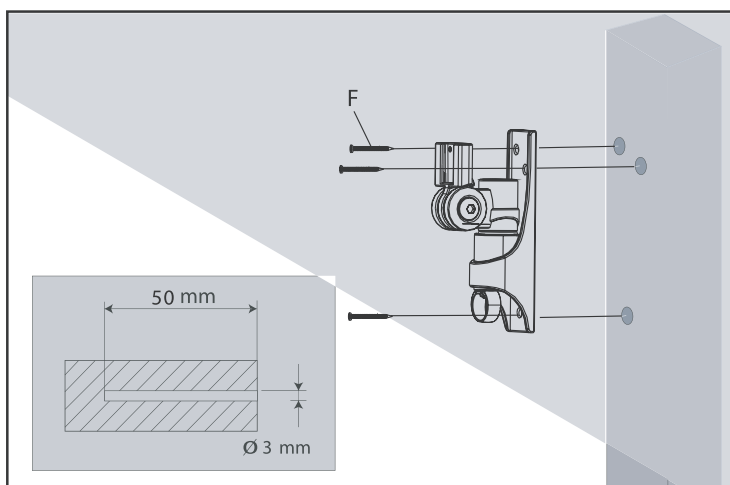

Fig 1
Use an electronic stud finder to detect the position of stud, then make a mark. Hold the wall mount in the installation position, using it as template. Mark mounting holes. Using a 3mm drill bit, drill three 50mm deep holes. Securely mount the wall plate with supplied Long bolts(F) as shown in Fig1.